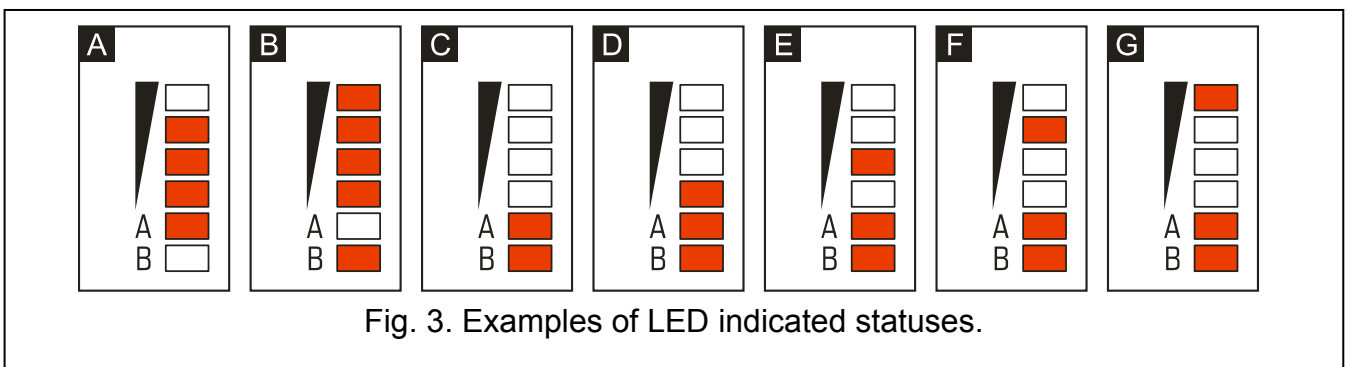

Fig. 3. Examples of LED indicated statuses.
- 2 - **LEDs** indicating the module status (see: Fig. 3).
Explanations for Figure 3:
If the SIM card PIN code is inconsistent with that defined in module settings, the inconsistency will be indicated by the electronics board LEDs (see: Fig. 3 Example F). The second attempt of using the PIN code will be made after 30 seconds. After the third attempt to use the invalid PIN code, the SIM card will be blocked. In order to enter the PUK code and unblock the SIM card, remove it and insert into the mobile phone.